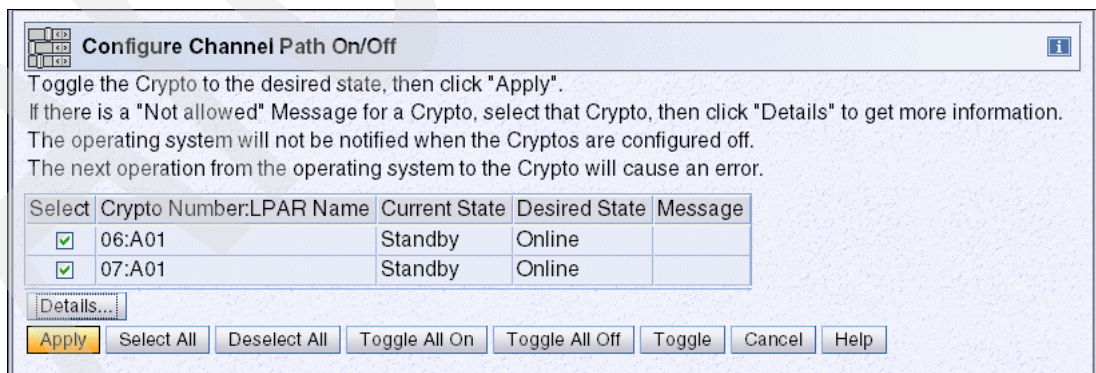

Figure 8-35 SE Crypto Config On/Off (Standby to Online)
4. After confirming the desired state for your requested crypto channels is set to Online, click the **Apply** button (Figure 8-35).